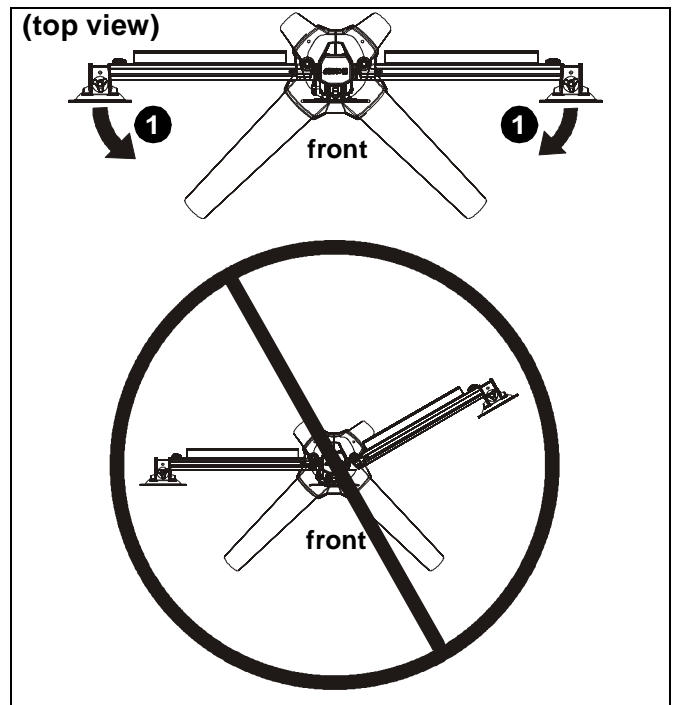

Figure 14
1. Array arms may pivot toward the front of mount up to 15° per arm. (See Figure 14)
WARNING: Pivoting array arms toward the back of mount may cause K3 Series mount to tip over causing serious personal injury or damage to equipment! Do not pivot arms toward back of mount! (See Figure 14)